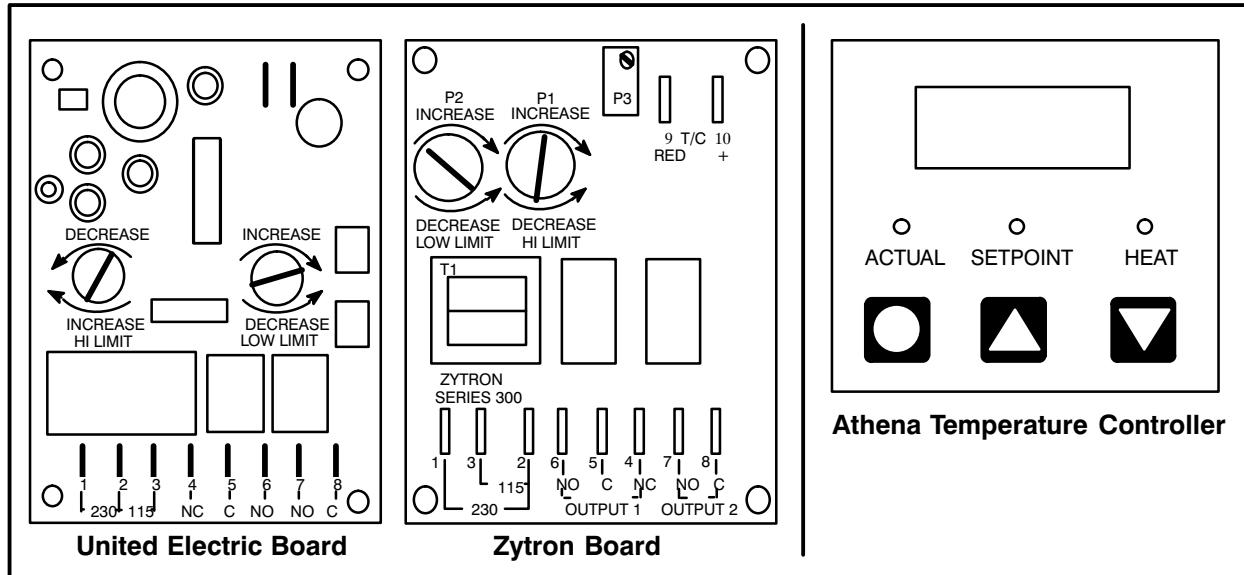

FIGURE 7
4. To adjust the temperature, turn the low-limit potentiometer. A clockwise rotation increases the setting, counter-clockwise decreases it. See FIGURE 7.
2. When the display reads 600°F (316°C), the burner blower motor should shut off. If the temperature rises above 600°F (316°C), adjust the hi-limit pot (FIGURE 7) so the burner shuts off at 600°F (316°C). A clockwise rotation of the high-limit pot increases the temperature, counter-clockwise decreases it.